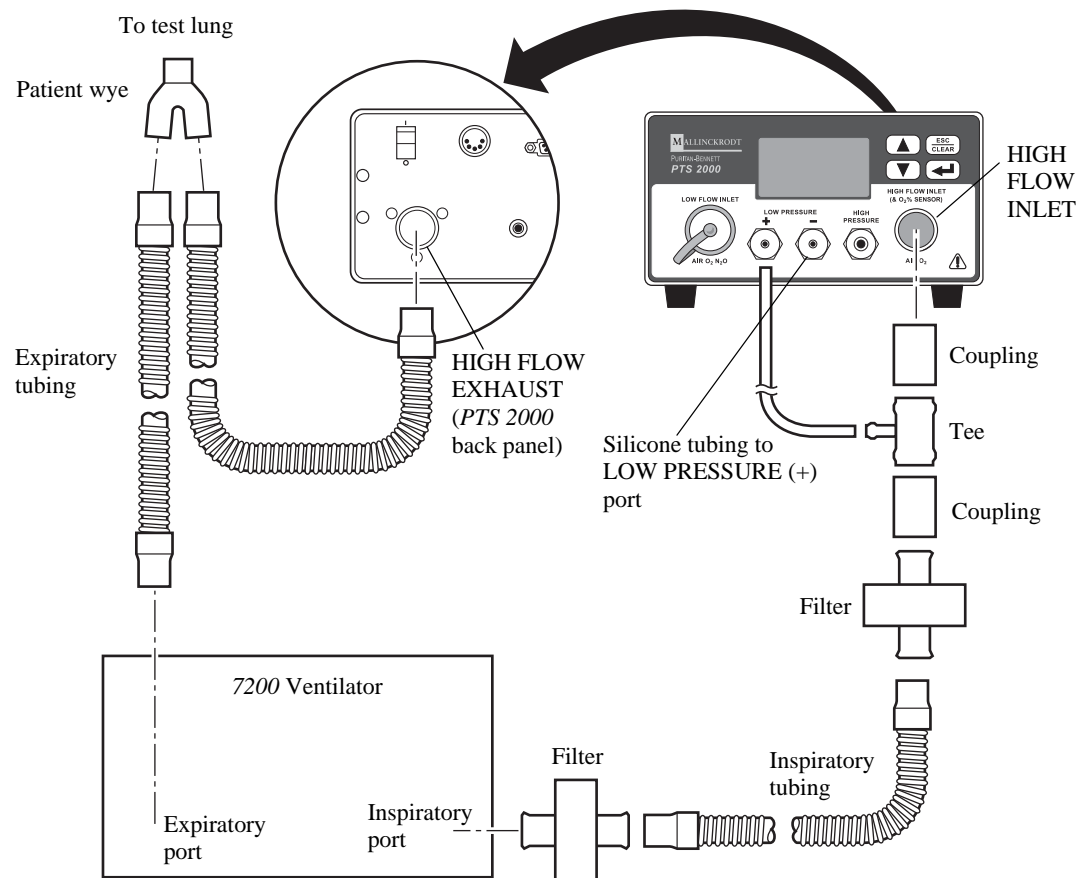

Figure 7-2. Attaching Tubing Between the 7200 Ventilator and *PTS 2000*
3. Attach tubing between the 7200 Ventilator and the *PTS 2000* (Figure 7-2).